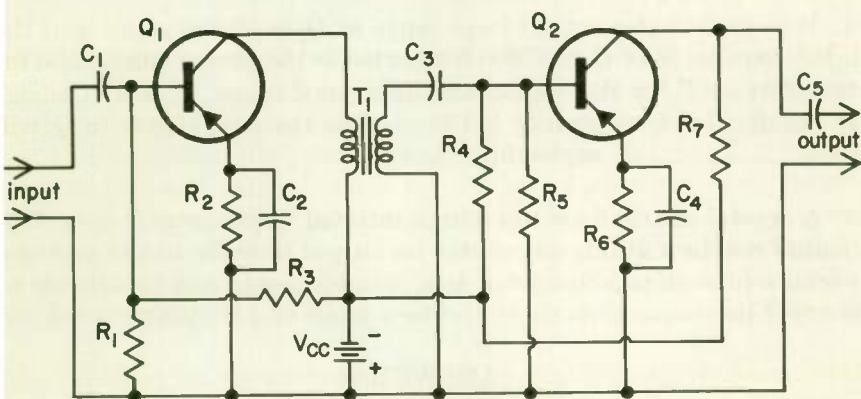

Fig. 13 Two stages of audio amplification using transformer coupling.
By the use of transformer coupling as shown in Fig. 13, the gain of a transistor amplifier can be much increased. By selecting the proper turns ratio for T_1 , the output impedance of Q_1 can be exactly matched to the input impedance of Q_2 for maximum signal amplification. The transformer uses fewer turns on the secondary than on the primary, so that the secondary signal current is much higher than the primary signal current. Thus the signal current applied to the base of Q_2 is much higher than with RC coupling, and consequently the signal output from Q_2 is much greater.
4. If in Fig. 13 the output impedance of Q_1 is 50,000 ohms and the input impedance of Q_2 is 1000 ohms, what is the proper turns ratio for transformer T_1 for the highest amplifier gain? (a) _____
1. In Fig. 13 a transformer is used to match the high-impedance output of Q_1 to the low-impedance input of Q_2 . As a substitute for the transformer, you could use a transistor connected in the (a) _____ configuration as an impedance-matching device. In a high-fidelity